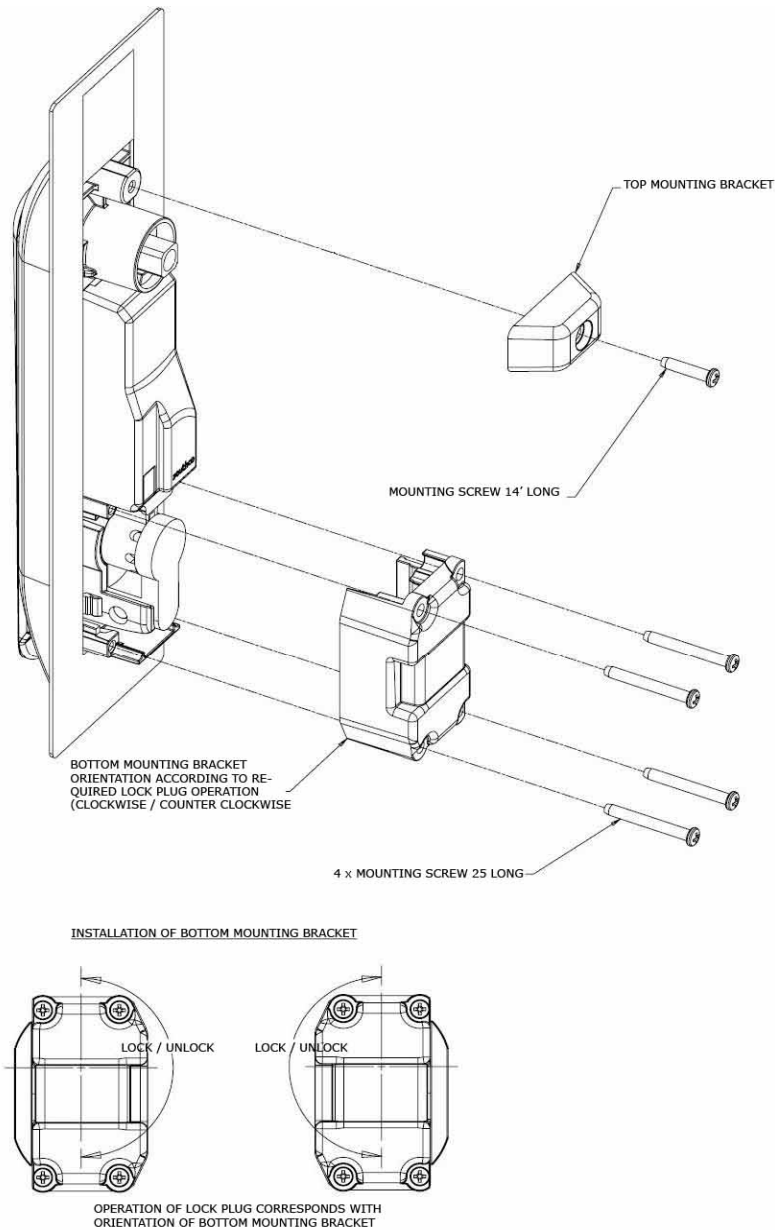

Figure 9
- Secure the lock to the door using the Top Mounting Bracket and Bottom Mounting Bracket as show in Figure 9. Do not over-tighten the screws in the Bottom Mounting Bracket as this may jam the lock mechanism.